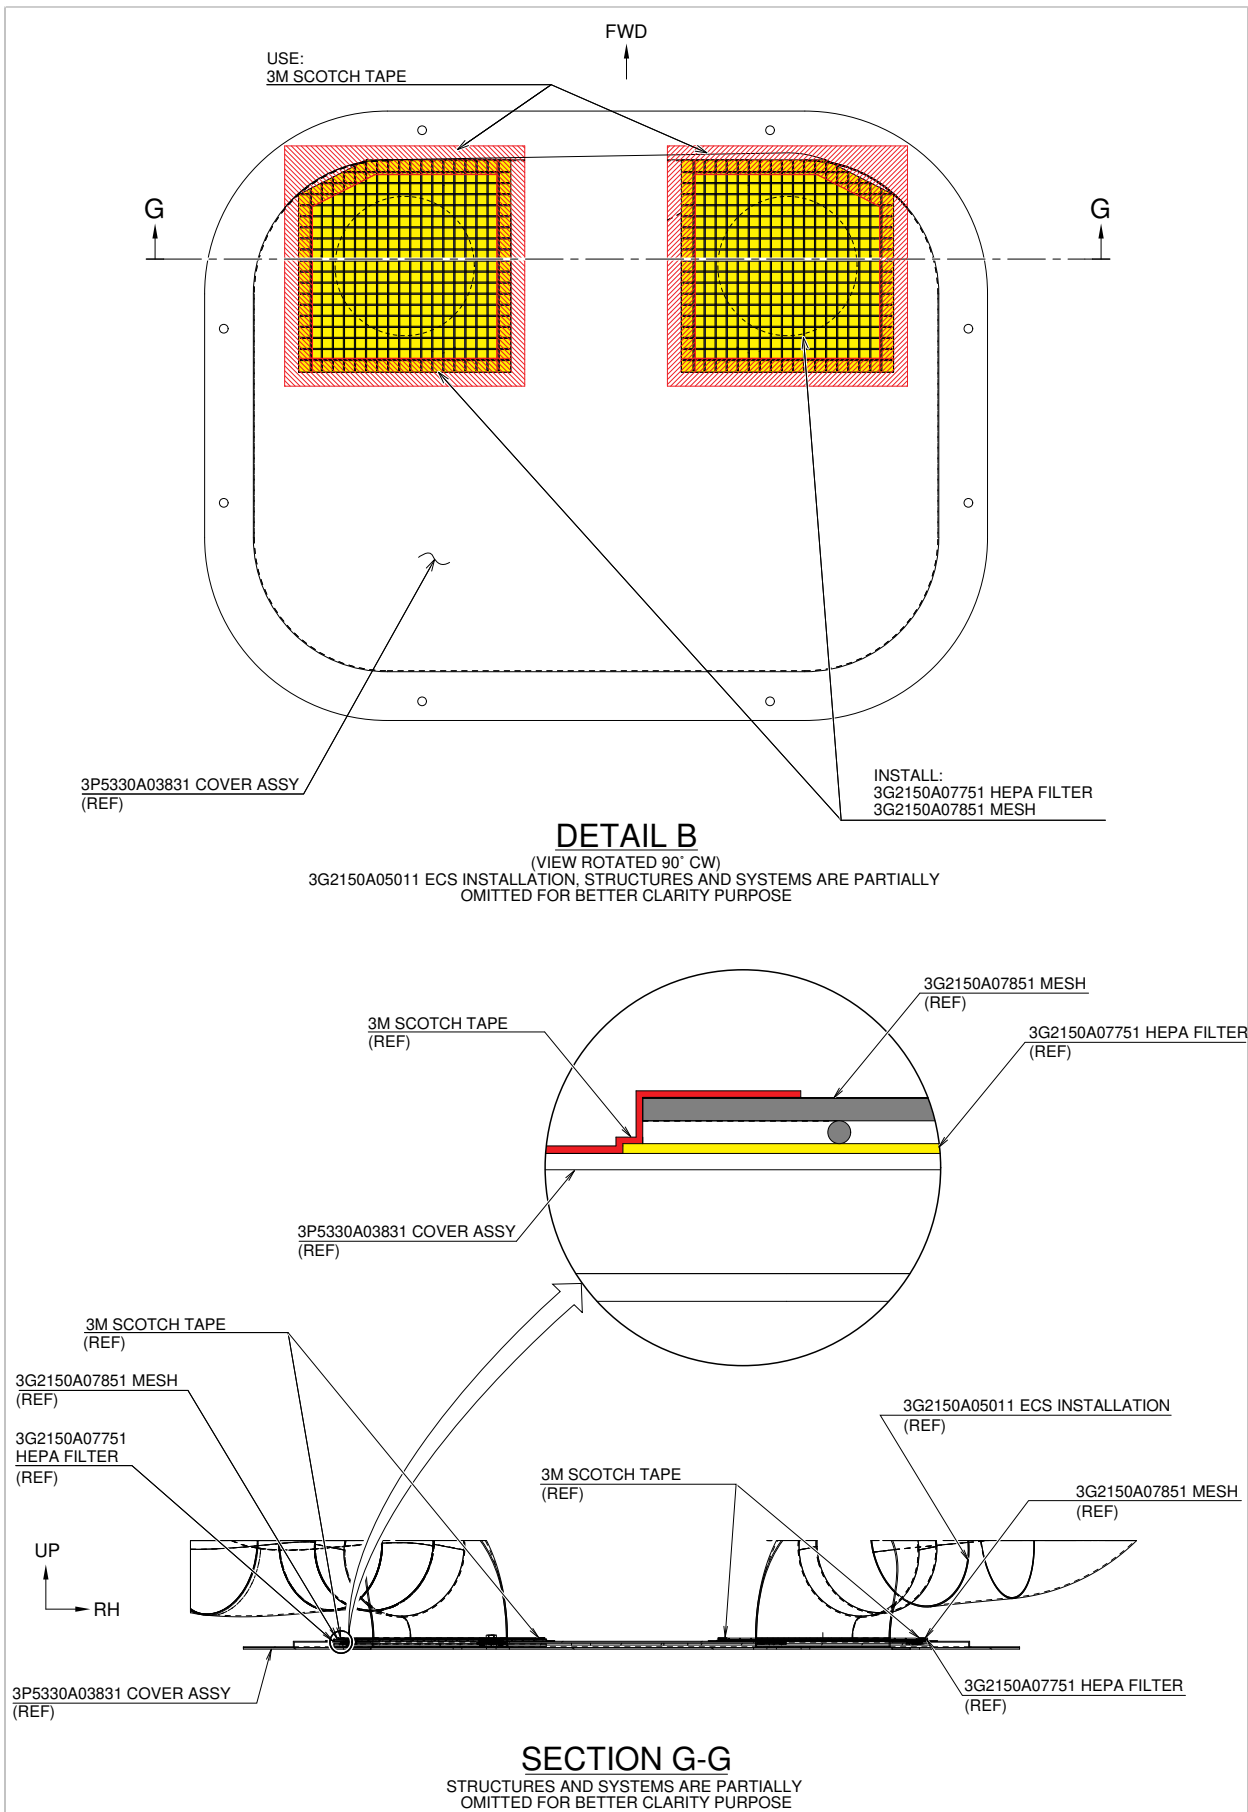

Figure 3
- 6.2 With reference to Figure 3, temporary locate n°2 HEPA filters P/N 3G2150A07751 on the cover P/N 3P5330A03831.
- 6.4 With reference to Figure 3, install n°2 HEPA filters P/N 3G2150A07751 and n°2 meshes P/N 3G2150A07851 by means of 3M scotch tape n°363 (C260) as required, on the internal side of the cover assy P/N 3P5330A03831.